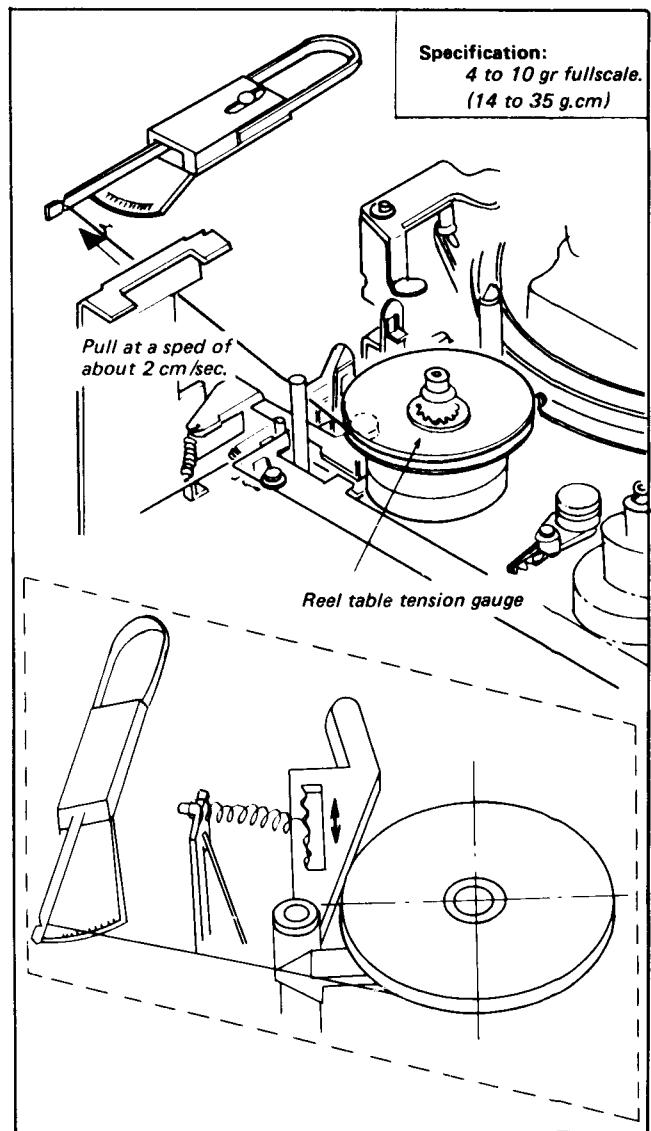

Fig. 3-21.
- (1) Mount the reel table tension gauge on the supply reel table as shown in Fig. 3-21 and hook the sector type gauge (50 g fullscale) to the end of the string of the tension gauge.
- (2) Set up the FF mode. Then pull away the sector type gauge at a speed of about 2 cm/sec. and check that the gauge reading is as specified. If the specification is not met, the spring tension should be adjusted by moving the position of spring hook in the direction of an arrow.